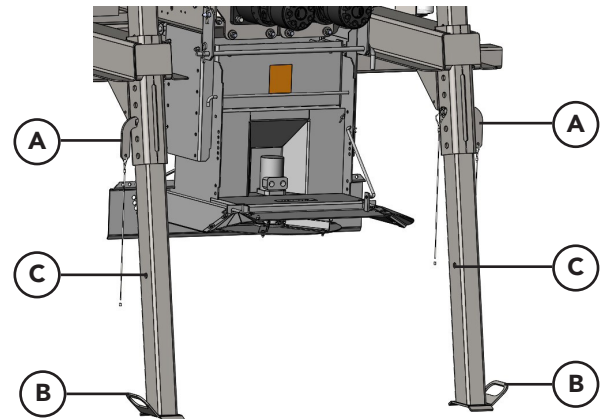

Figure 6 - Rear Leg detail
9. Figure 6 - Raise rear legs:
- a. Remove lock pin (A).
- b. Grip rear leg at handle (B).
- d. Insert lock pin into hole (C).